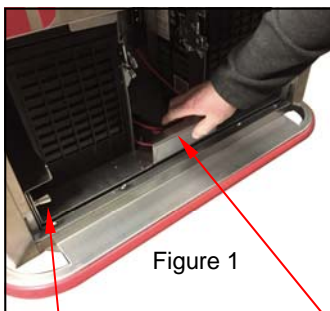

Figure 1
- 12) Next, twist the knobs one quarter turn until they release from the out ("unlocked") position (Fig. 1). Push the knobs on the left and right sides of the battery tray towards the outside of the cart until they are seated in their locating holes.